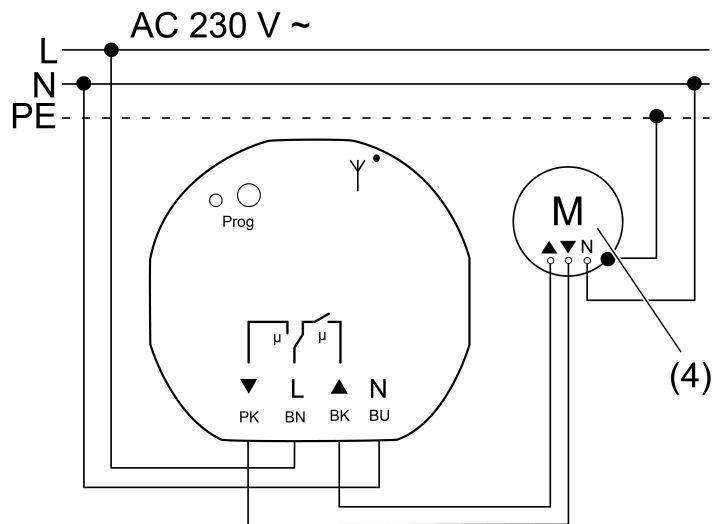

Figure 3: Connection diagram
- Connect venetian blind actuator in accordance with connection diagram (Figure 3) with connection terminals (see Using connection terminals), and connect with the venetian blind or roller shutter motor (4).